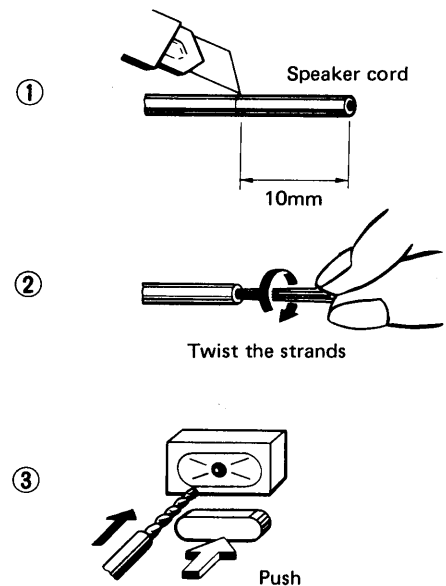

Fig. 2
### Processing and connecting the speaker cords (Fig. 2)
1. Cut off the covering of the speaker cords as shown in Fig. 2-①.